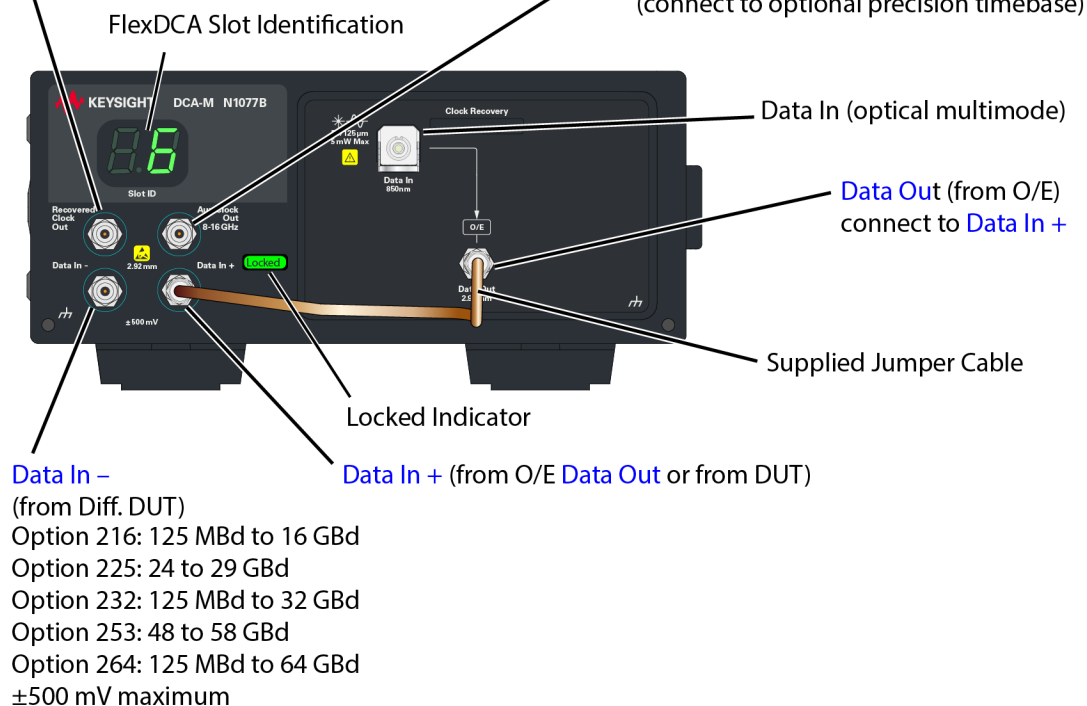
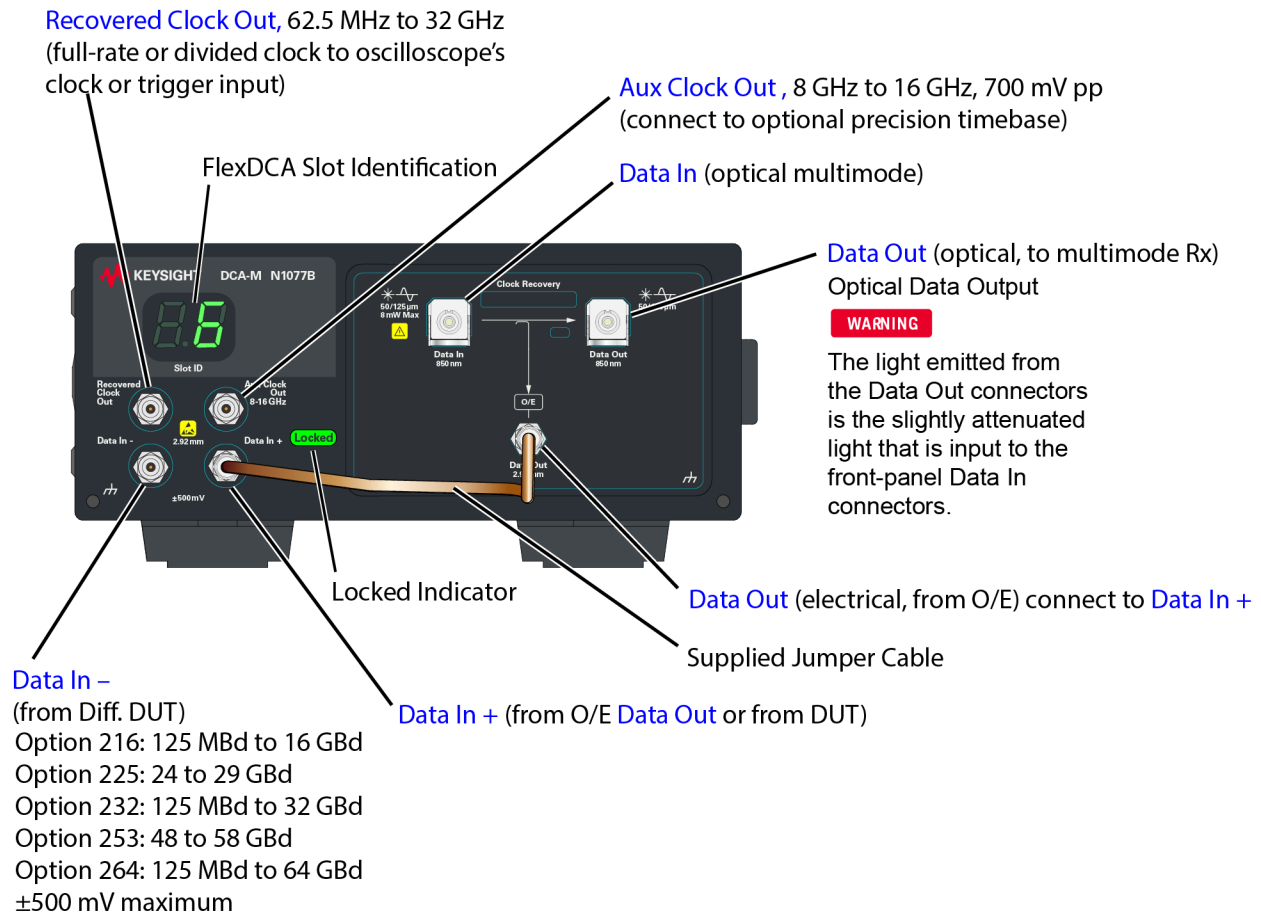

Figure 44. N1077B-SXT Front-Panel Connectors
Figure 45. N1077B-SMM Front-Panel Connectors
*Figure 44 on page 90* and *Figure 45 on page 91* show the N1077B-SXT and N1077B-SMM module front-panels. Both model options have multimode/single-mode optical connectors. Option SXT modules do not have an internal optical splitter. Option SMM models include an internal optical splitter (50%). The optical internal splitter provides a slightly attenuated input signal at the optical **Data Out** connectors. This output can be used for input to a receiver module or other test equipment.
1. Confirm that the input signal meets the baud rate and amplitude requirements shown in *Figure 44 on page 90* and *Figure 45 on page 91*. In this procedure, the following assumptions are made for simplicity. You can change these parameters to any acceptable values.